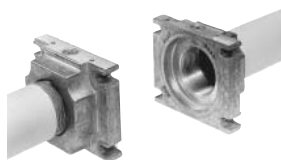

Fig. 12
3. Remove MultiBloc between the threaded flanges (Fig. 12).